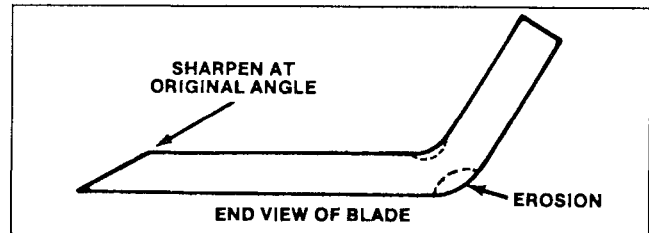

Figure 17
Check cutter blade every time rider is tipped on end. If bolt holding blade is loose, tighten it to 45–60 ft-lb. If blade or sail (Fig. 17) at end of blade is worn, eroded, or cracked, replace the blade. Replace the blade if it is bent or out-of-balance. Always use genuine TORO replacement blade to ensure safety and best performance. NEVER USE WILL-FIT REPLACEMENT BLADE.
7. Using a file, sharpen cutting edge at both ends of the blade (Fig. 17).
7. Since rider is tipped on end, check condition of blade (Fig. 17).